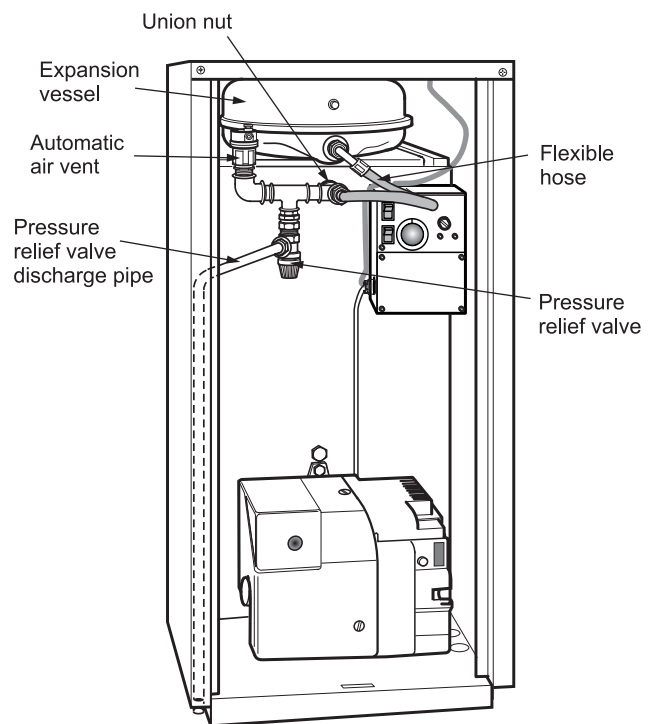

Fig. 14
See Figs. 14, 14a and 14b
- 3 Connect the relief valve/automatic air vent assembly to the $\frac{3}{4}$ " connector, using the sealing washer and secure in position by tightening the union nut. See Fig. 14.
- 4 Connect the free end of the flexible hose to the expansion vessel, ensuring that the red sealing washer provided is fitted. Tighten the union nut on the flexible hose and place the expansion vessel on top of the boiler heat exchanger. See Fig. 14.
- 5 Fit the pressure relief valve discharge pipe. See Fig. 14.
- 1 An automatic air vent is fitted to the top of the boiler (see Fig. 14 or 14c). Check that the small cap on the top of the air vent is screwed on fully, then unscrew it one complete turn - the cap remains in this position from now on.
- 8 Check the operation of the pressure relief valve (see Fig. 14 or 14c) by turning the head anticlockwise until it clicks. The click is the valve lifting off its seat allowing water to escape from the system. Check that this is actually happening, and water flows unobstructed from the relief discharge pipe.